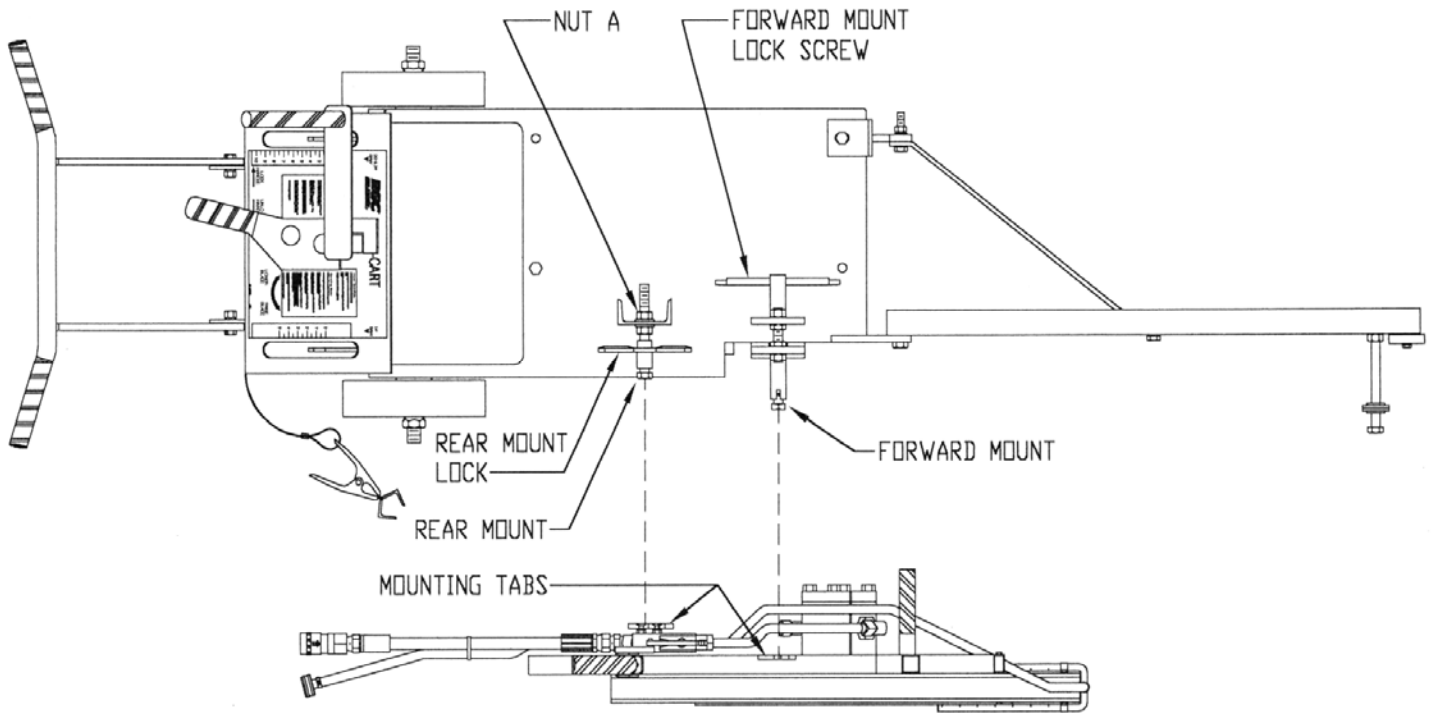

Figure 1
1. Loosen nut A to allow movement of the stud in the vertical direction (see figure 1).